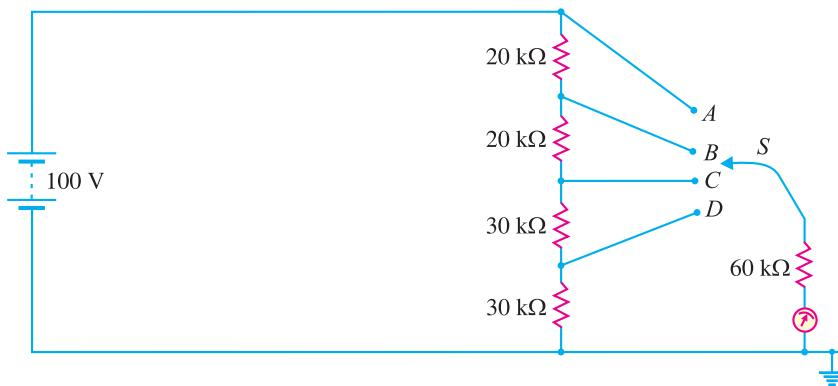

Fig. 22.10
**Example 22.5.** In the circuit shown in Fig. 22.10, find the voltage at points A, B, C and D (i) before the meter is connected and (ii) after the meter is connected. Explain why the meter readings differ from those without the meter connected.